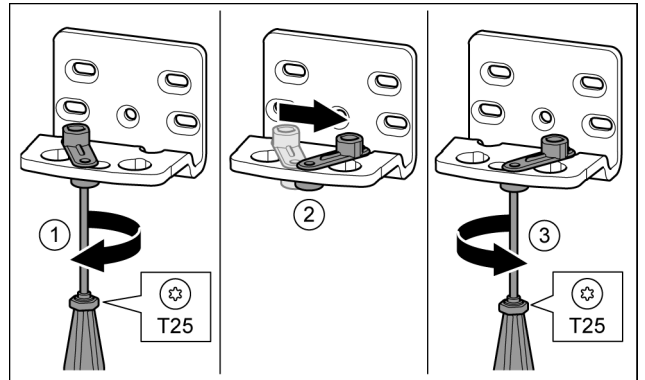

Fig. 16*
- ▶ Loosen the screw using a T25 screwdriver.* Fig. 16 (1)
- ▶ Lift the door closure aid and turn it 90° to the right in the hole.* Fig. 16 (2)
- ▶ Tighten the screw using a T25 screwdriver.* Fig. 16 (3)